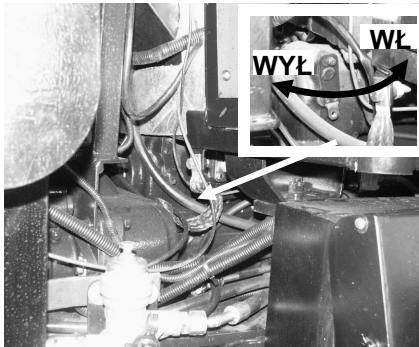
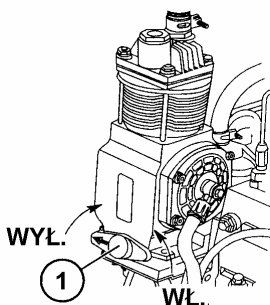

Fig. E-5 Hydraulic pump activation lever.
Fig. E-6 Pneumatic system compressor.
- when the engine works, release the clutch pedal, activate the hydraulic pump drive (if not activated) (**Fig. E-5**), and the compressor drive, if necessary (**Fig. E-6**) if the tractor would be coupled with a trailer;
The hydraulic pump activation lever is situated in the central front part under the cab (**fig. E-5**).
The compressor is installed on the left engine side. Turning of the knob **1** (**fig. E-6**) clockwise makes the compressor on, counterclockwise - off.